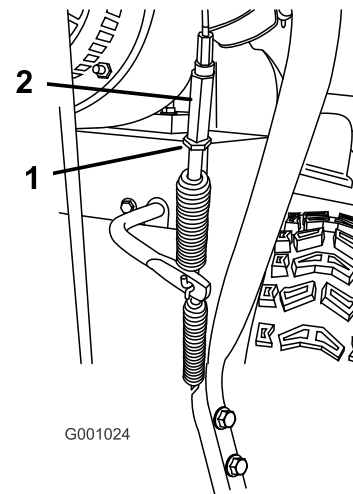

Figure 38
5. Loosen the jam nut (Figure 38).
- Loosen or tighten the turnbuckle that adjusts the tension on the cable (Figure 38).